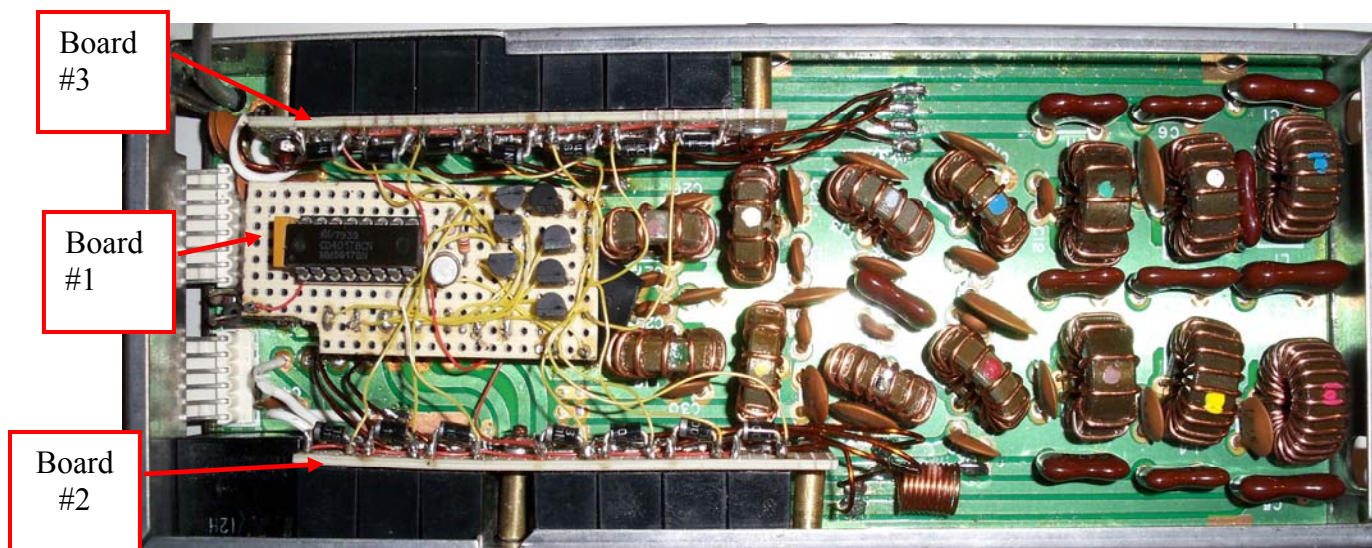
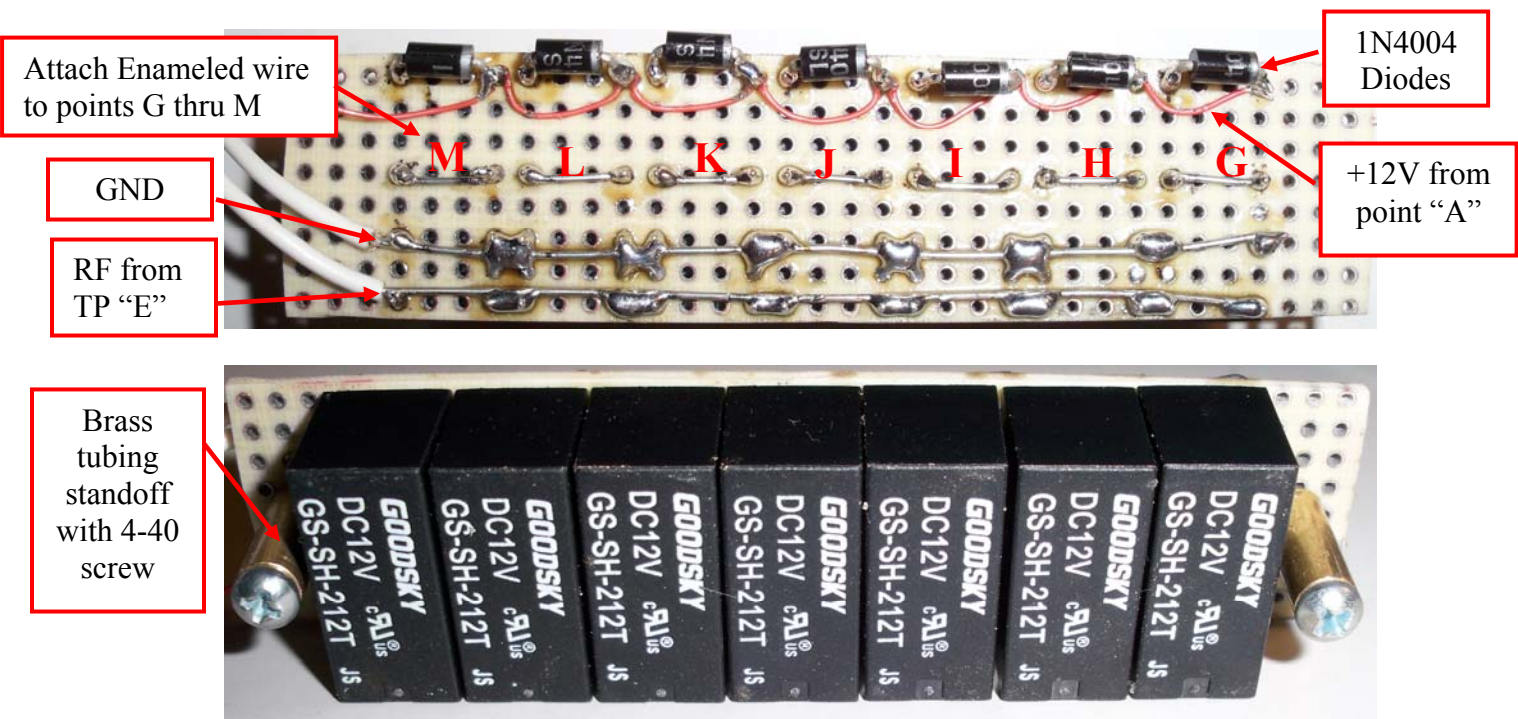

Figure 7. Completed filter project top view.
Figure 11. Front and back view of Board #3.
The entire schematic of the completed project is shown in Figure 6. The circuitry inside the dotted rectangles is constructed for this project. The circuitry outside the dotted rectangles is the original Icom circuitry minus the components removed in steps 1 thru 3. Pictures of the final project are shown in Figures 7 and 8.
- 9) Construct Board #3. Refer to Figure 11 for details. Leave adequate room on the sides of the board for the mounting screws. Cut the brass tubing from the original relay to the width of the new relays. These are used as standoffs to retain the boards as shown in Figures 7 and 8. #4 screws fit perfectly inside of the tubing. Drill holes through the sides of the module as required to retain the board. Solder sections of enameled wire adequate to reach the proper destination on the circuit board. These enamel wires are not shown on Figure 11.
- 10) Place Board #3 inside the module as shown in Figures 7 and 8. This is a tight fit, so be careful. Attach all of the wires to the proper points on the PCB. This will require some planning before installation. In my case, the wires to Points E and M were toward the end of the module with the loose gray cable. Points L and K were soldered immediately in front of the board to the PCB below. Points G, H, I and J were soldered as shown in 12.